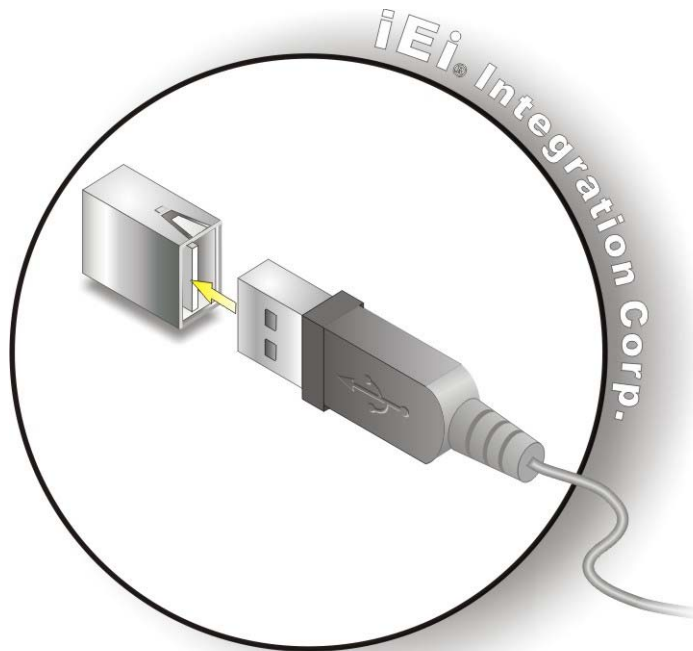

Figure 4-17: USB Device Connection
Step 2: Align the connectors. Align the USB device connector with one of the connectors on the SPCIE-C2160. See **Figure 4-17**.